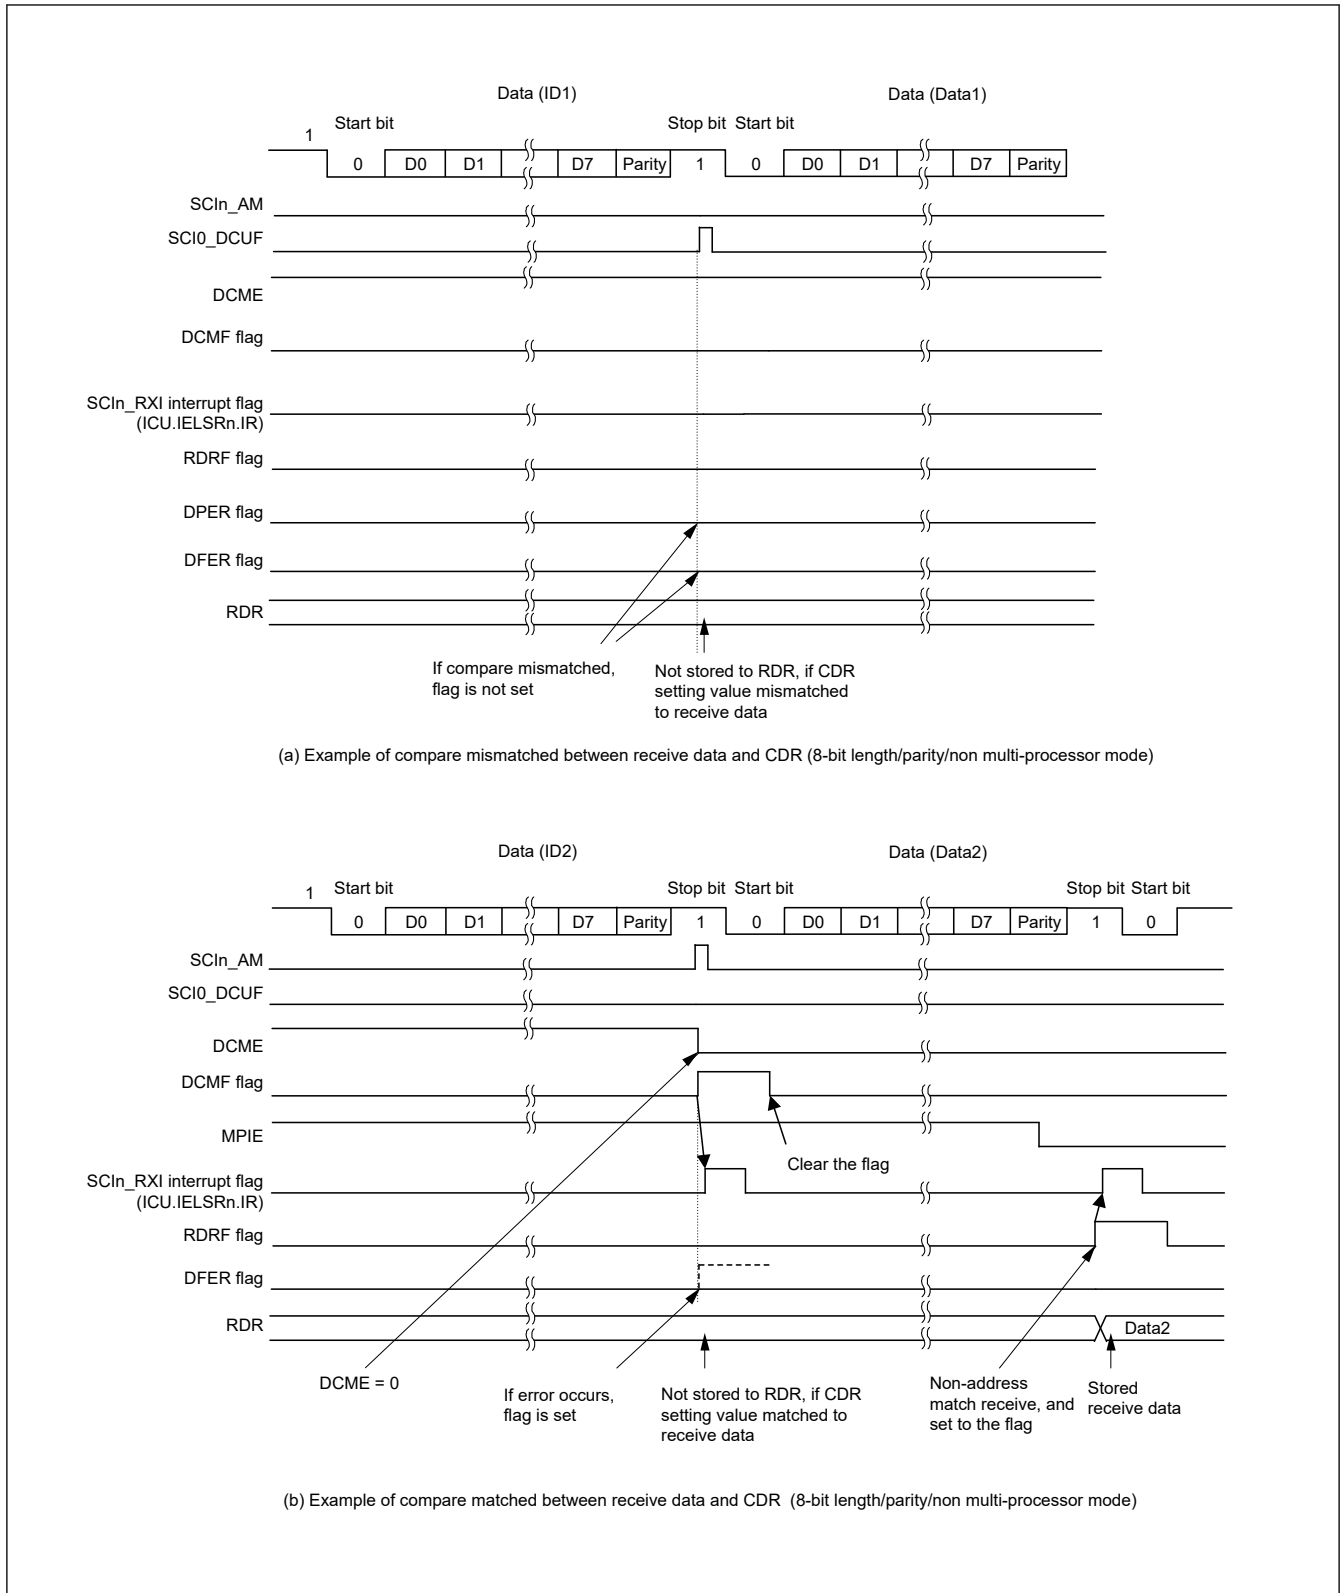
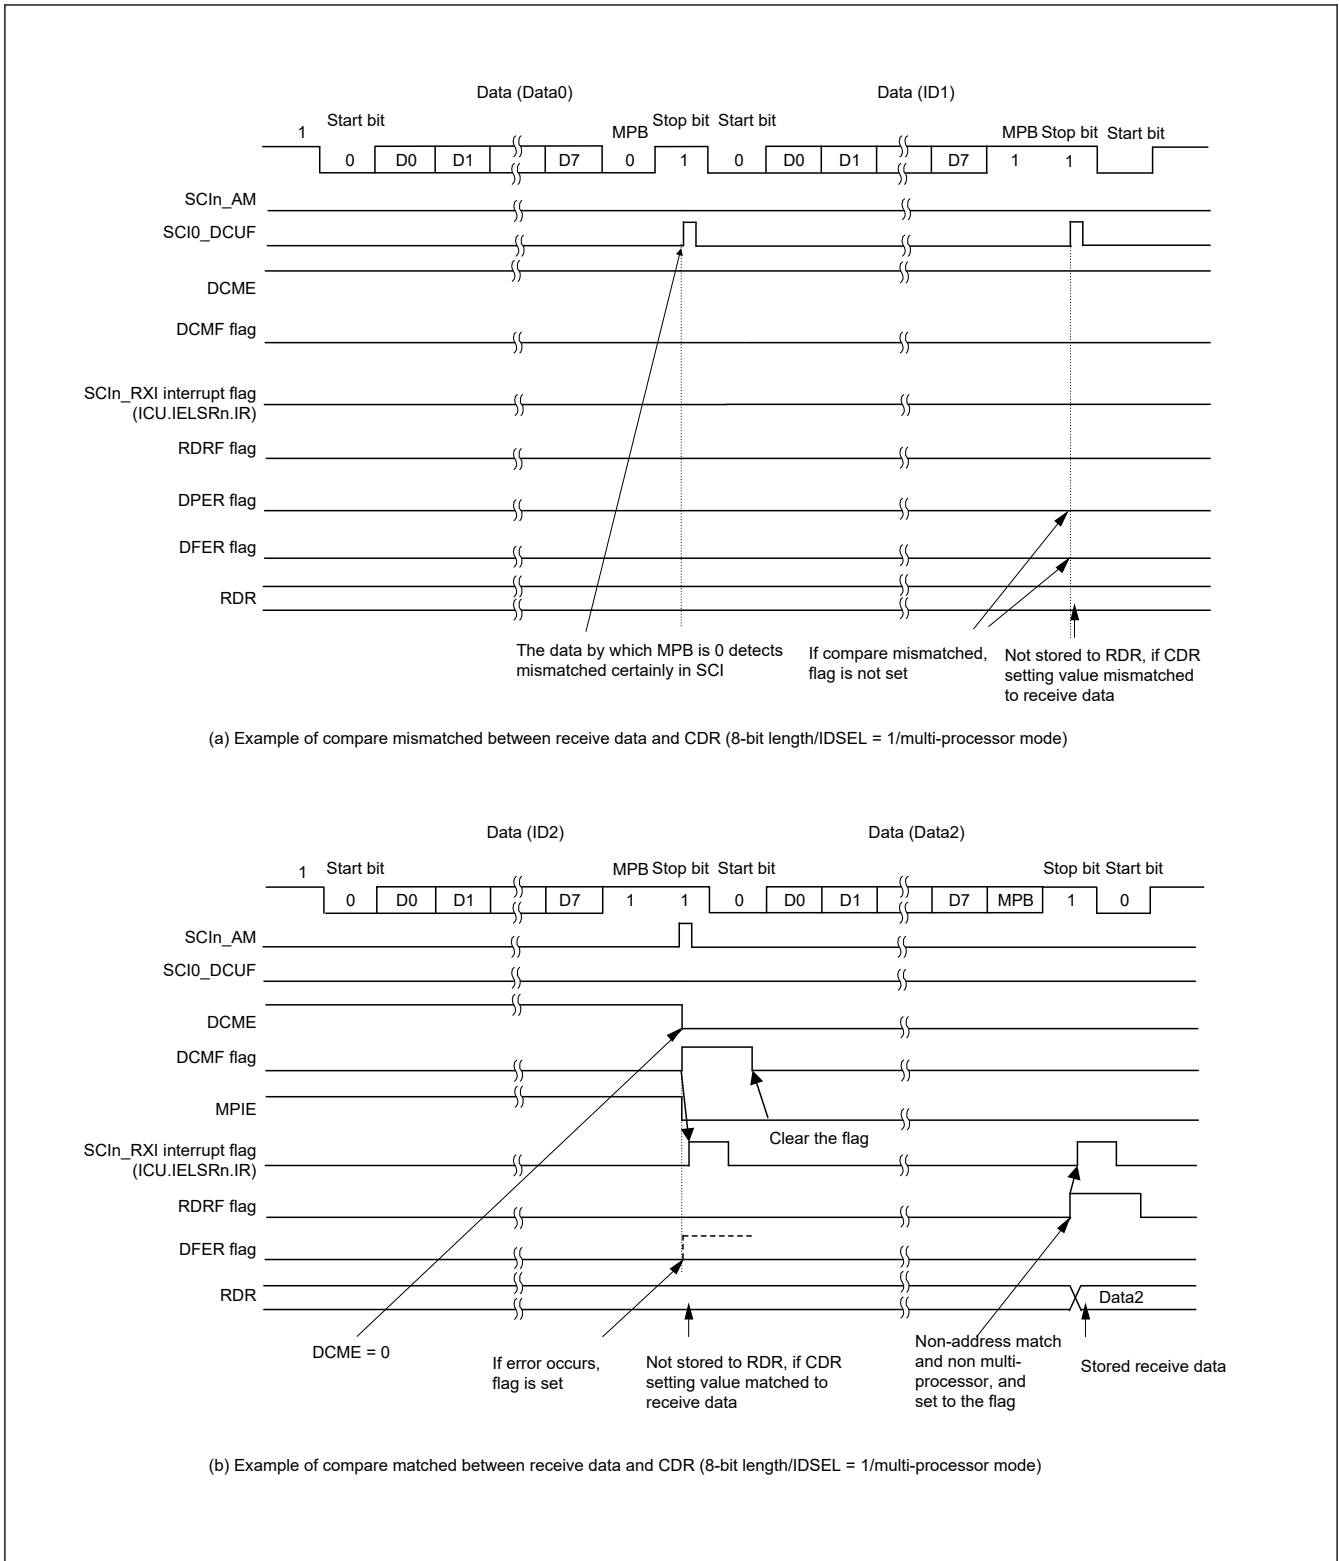

Figure 26.5 Example of address match (1) normal mode
Figure 26.6 Example of address match (2) multi-processor mode
Examples of the address match function are shown in Figure 26.5 and Figure 26.6.
6. If a framing or a parity error is detected (the DCCR.DFER flag or DCCR.DPER flag is 1) in the SCIn_AM interrupt handling routine, set the DCCR.DFER and DCCR.DPER flags to 0 and set the DCCR.DCME bit to 1 to enable the address match function again. If neither a framing nor a parity error has been detected (the DCCR.DFER and DCCR.DPER flags are both 0), set the DCCR.DCMF flag to 0. See Figure 26.5.